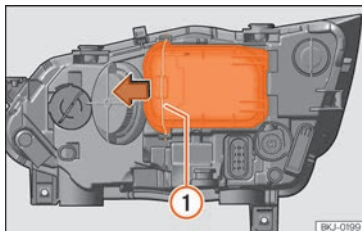

Fig. 104 In the engine compartment: remove the lid.
- Move the loop » **Fig. 104 ①** in the direction of the arrow and remove the cover.